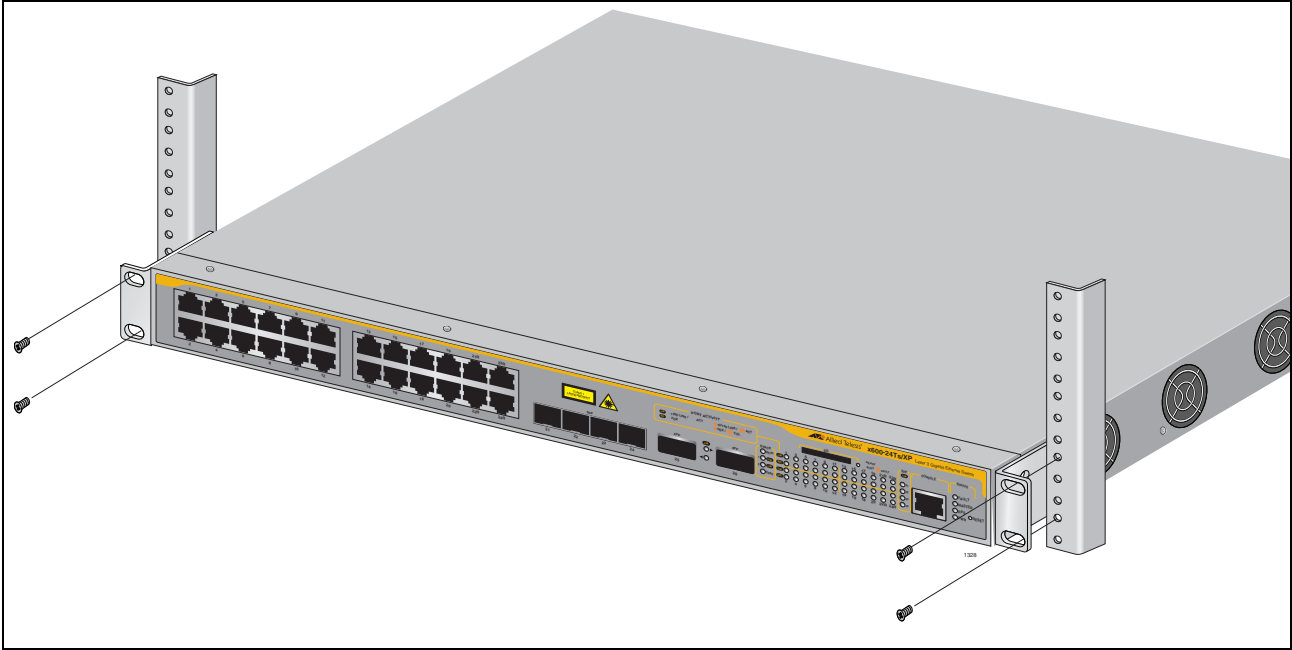

Figure 25. Mounting the Switch in a Rack
- 6. Mount the switch in a 19-inch rack using standard screws (not provided), as shown in Figure 25.